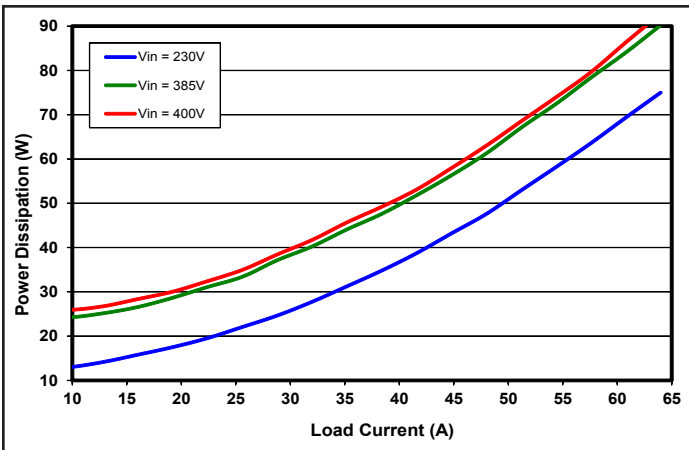
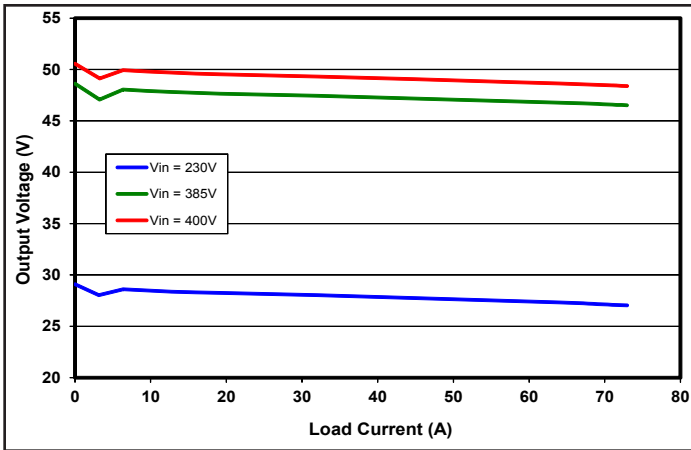

Figure 3: Power dissipation vs. load current for minimum, nominal, and maximum input voltage at TCASE=25 °C.
Figure 7: Output voltage vs. load current for different input voltages showing typical current limit curves.
**Operation at Light Loads:** The operation of the converter was optimized to reduce power dissipation at light load resulting in a non-monotonic  $V_o$  vs  $I_o$  characteristic load curve (figure 3 and figure 7). This feature affects, in a negative manner, the current share performance (ability) when placing multiple like BusQor's in parallel.